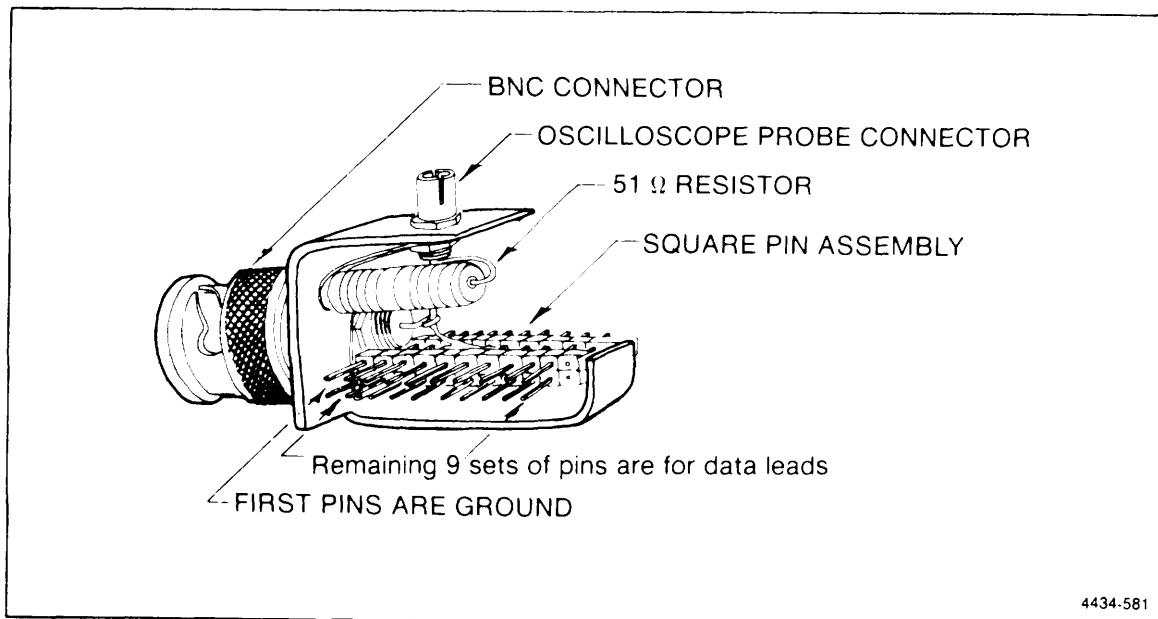

Figure 5-2. Assembled Test Fixture
- a. Refer to Figure 5-2. Solder the ground lug from the BNC plug to the first set of four pins (front end) on the square-pin assembly. It is important that this connection be as short as practical to avoid high-speed signal loss.